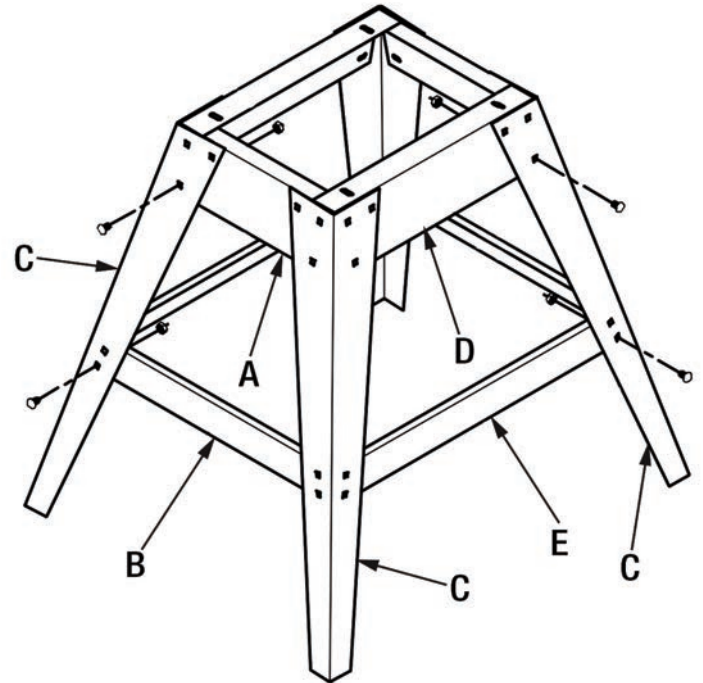

FIGURE 6
1. Using carriage bolts and hex. nuts, assemble one end of the stand first. Start by attaching one of the short top brace (A) Fig.6 and one of the short bottom brace (B) to a pair of legs (C). Repeat for the other side.
2. Assemble both ends of the stand using the remaining two long top braces (D) and long bottom braces (E) to join the two ends of the stand.